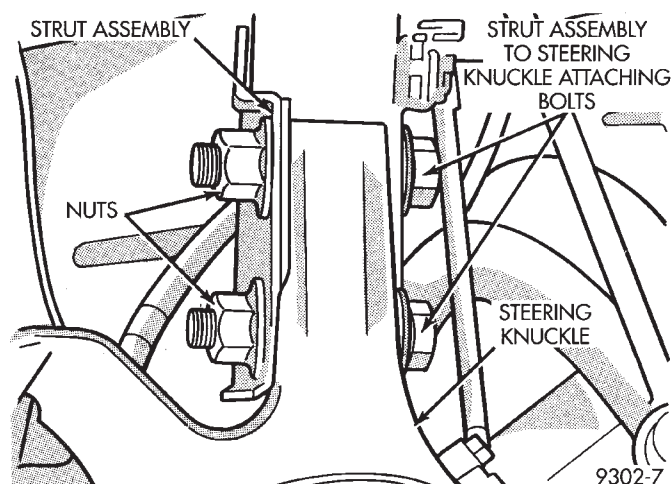

Fig. 16 Strut Assembly to Steering Knuckle Attaching Bolts
(7) Install the strut assembly to steering knuckle attaching bolts. Install nuts on attaching bolts (Fig. 16). Tighten the strut assembly to steering knuckle bolt nuts to 169 N·m (125 ft. lbs.). **TURN NUTS ON BOLTS. DO NOT TURN BOLTS.**